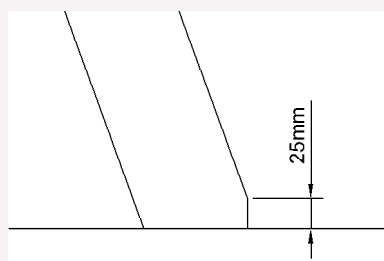

fig 17
13. **Important: Cut the front corners back 25mm** - this can make the stair easier to close and can also prevent damage to the stair if dropped during opening (figure 17).